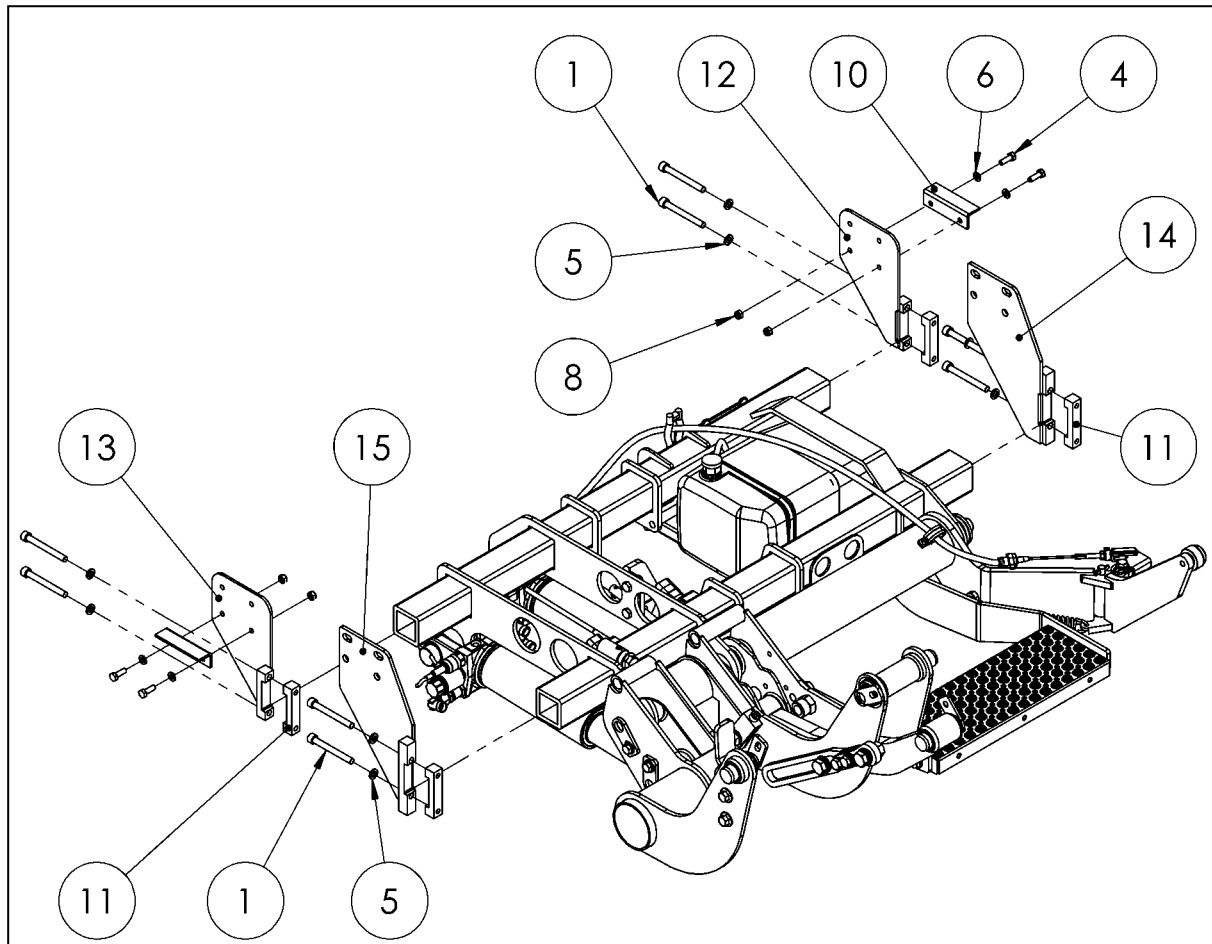

Fig. 12
- Pre-install the installation adapters on the liftgate's lifting gear as shown in Fig. 12, tightening the fittings until hand-tight.
IMPORTANT: Depending on the vehicle, choose either with front-wheel drive or with rear-wheel drive, tightening the fittings until hand-tight (see Fig. 12).
IMPORTANT: Figure shows the installation adapters for a vehicle with front-wheel drive. The installation adapters for a vehicle with rear-wheel drive are visually different. Installation is the same for both vehicle types and Fig. 12 applies to both.